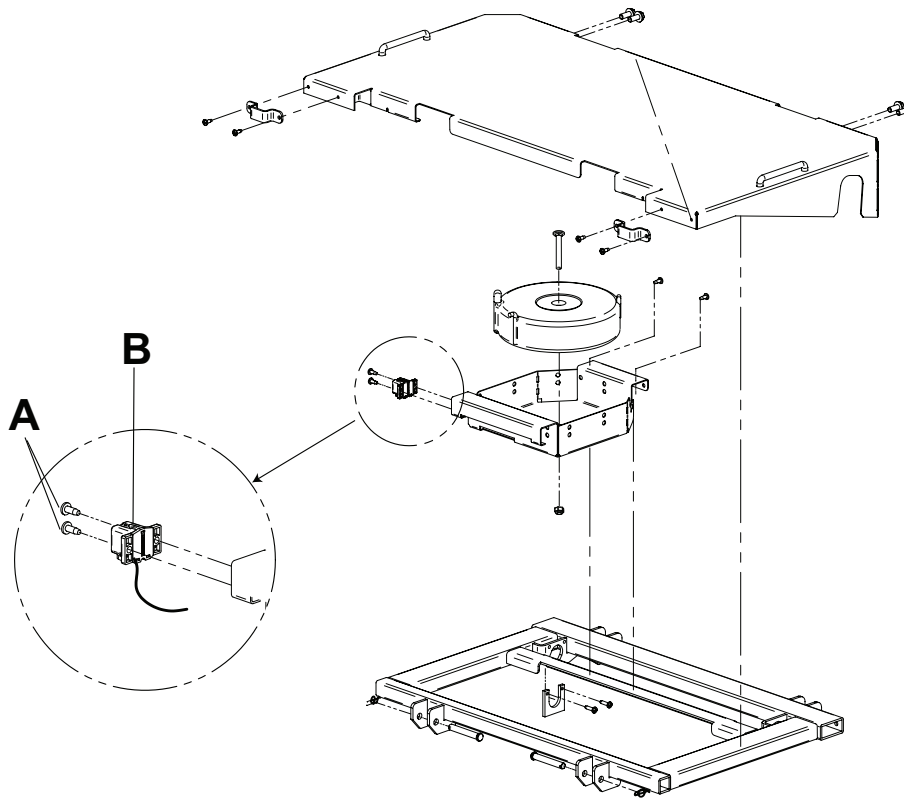

Figure 71 – Gatch angle sensor
5. Working from the bottom left side of the litter, under the Gatch section, use a #2 Phillips short screwdriver to remove the two screws (A) that secure the Gatch angle sensor (B) to the bottom of the Gatch frame (Figure 71). Save the screws.